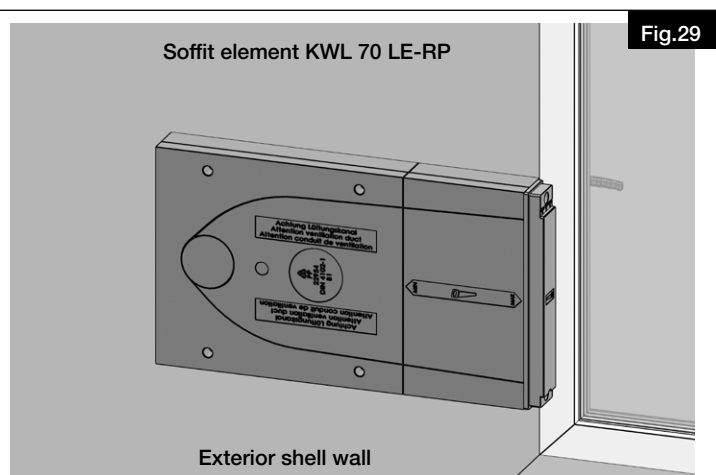

Fig.29
5. For the installation of the soffit element KWL 70 LE-RP, refer to the installation and operating instructions KWL 70 LE-RP (Print no. 21389), see Fig.29.